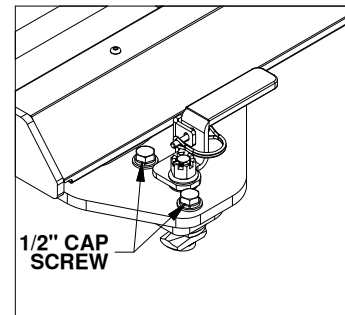

Figure B4: View of base foot
- Each leg of the Companion base has an adjustable pilot assembly which is attached to the foot with two 1/2" cap screws, as shown in Figure B4. To adjust the pilot assemblies that do not fit into the attachment points, loosen both the 1/2" cap screws so the pilot assembly can move freely, see Figure B4. Set the base over the attachment points and adjust the pilot assemblies until the pilot keys pass through the slot in the attachment points and the pilot shoulders rest flat against the top of the attachment points. When all the pilot assemblies are aligned and inside the attachment points, push the base towards the cab and use a tape measure to verify that the base is approximately square with the truck bed. Tighten any loose cap screws to 80 ft-lbs.